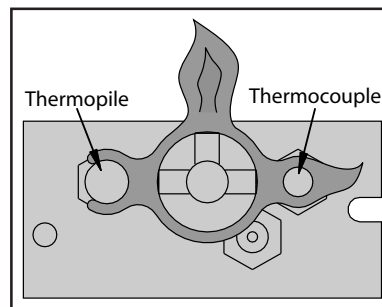
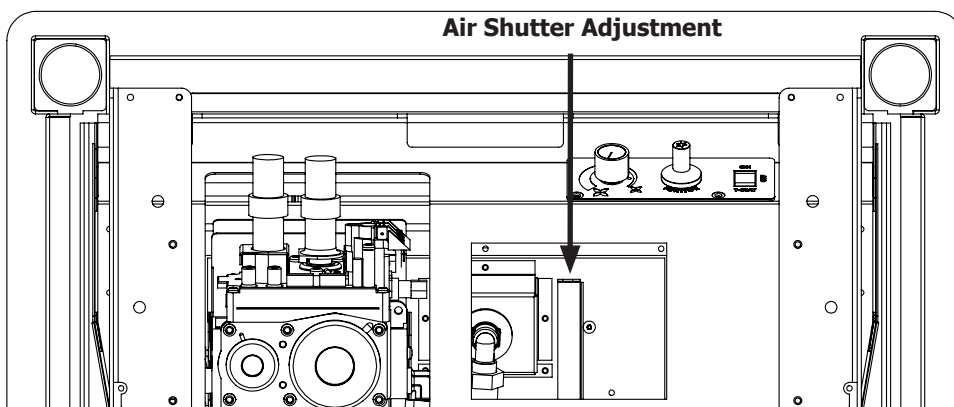
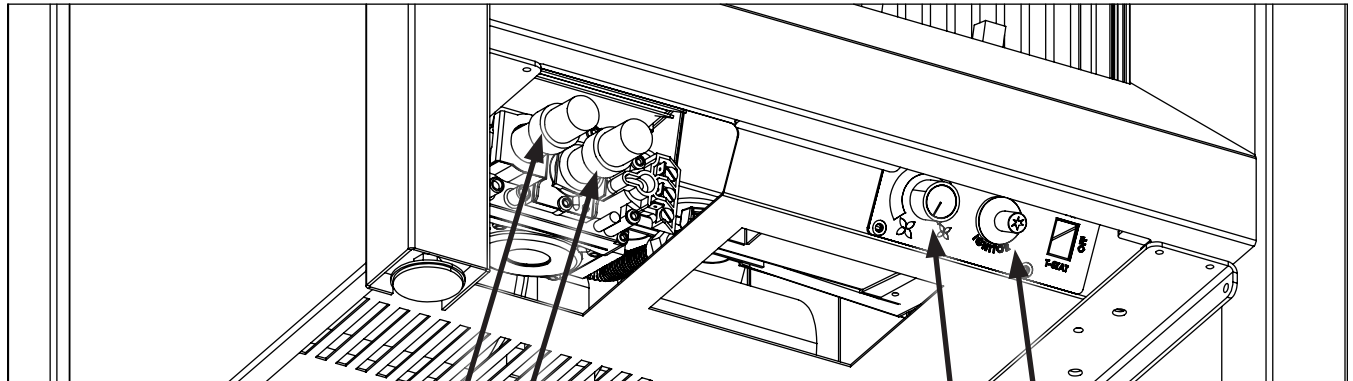

Figure 3. Pilot Flame
Figure 4. Air shutter adjustment lever.
Figure 5. Control Panel
1. Turn off the gas to the fireplace. **If not recently done, remove the glass and let the unit air out for at least five (5) minutes to clear out any gas.** Turn on gas to the appliance.
2. Start the pilot by pressing the gas control knob (Figure 5) and turning it to PILOT (counter clockwise). You will feel the knob depress in PILOT. While holding the gas control knob in, press the piezo ignitor several times until the pilot light starts. Hold the gas control knob in for 30 seconds, the pilot should now stay lit with out depressing it. Check that the pilot has fully engulfed the thermocouple assembly (see Figure 3).
The air shutter adjustment lever is located on the right hand side of the venturi box (see Figure 4) . To adjust the air shutter reach through the rectangle shown in the cabinet bottom. The air shutter allows the amount of air coming into the fireplace to be adjusted in order to accommodate different climates and venting arrangements. Start the pilot and then the burner. Make sure the pilot flame is burning normally and none of the burner ports are plugged. Let the fireplace burn for roughly fifteen minutes and then examine the flames, compare the flames to Figure 41.
The S20 controls (Figure 5) is located at the front of the unit (Figure 4). For easier access to controls the face can be removed. To light the burner correctly follow the steps below:
The blower will come on only when the fireplace is up to temperature (approximately 15 minutes). The speed of the fan can be changed by turning the fan control knob. The blower will continue to operate automatically after the unit has been shut off (approximately 25 minutes). To turn the blower off, turn the fan control knob COUNTER CLOCKWISE until it “clicks” off (Figure 5).